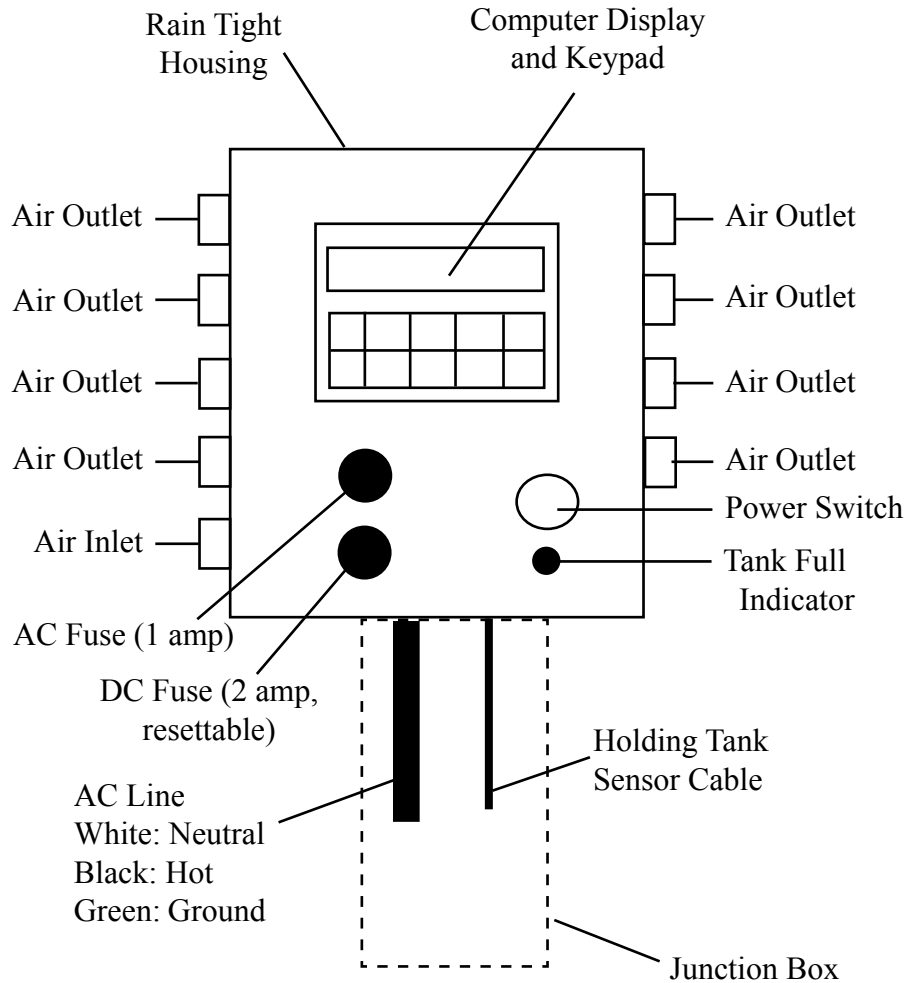

Figure 3
STEP 1. Mount programmable Controller Model 5500ES (Figure 3) in a vertical position near the air source, power source, and holding tank, if possible. **CAUTION:** The Model 5500ES is NOT intrinsically safe. If this controller must operate in a CLASS I area, use the XITECH Model 2550ES CLASS I Controller instead. Air supply needs to be free of WATER and OIL to have minimum maintenance.
STEP 2. Install holding tank shutoff assembly into holding tank (a 2" standard pipe inlet will be required in the holding tank). The level of product in the holding tank can be set by raising or lowering the liquid level sensor attached to the rod. Wire the sensor cable into the controller (Figure 3). **NOTE:** If additional signal cable is needed to position the holding tank assembly further away from the controller, use 18 gauge 2-conductor wire.
STEP 3. Attach power line from the AC Line to the controller (Figure 3). Turn on the controller power switch. If the red "Product Tank Full" light stays on, you have a problem with tank shutoff wiring. Turn off the power switch and re-check the tank shutoff wiring. If the light continues to stay on, call the factory.